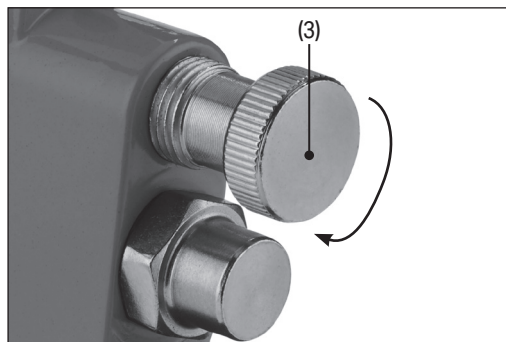

Fig. 7
2. Rotate the fluid control dial (3) clockwise as far as possible to close the fluid valve (Fig. 7).